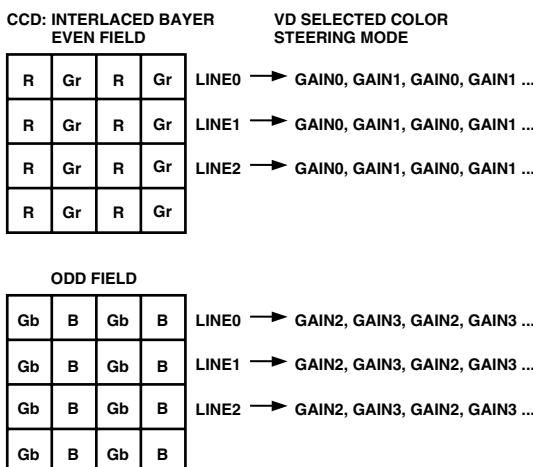
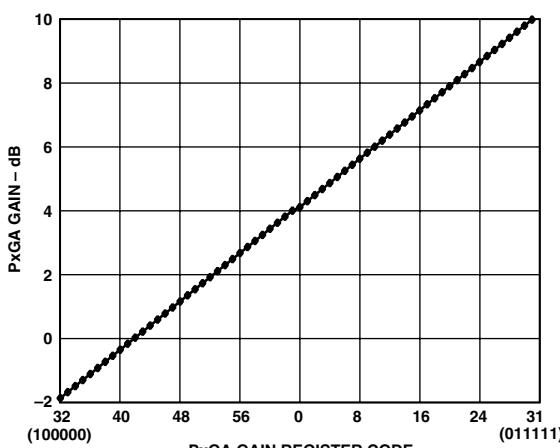

Figure 27. CCD Color Filter Example: Interlaced
Figure 28. *PxGA* Gain Curve
The same Bayer pattern can also be interlaced, and the VD Selected mode should be used with this type of CCD (see Figure 27). The Color Steering performs the proper multiplexing of the R, G, and B gain values (loaded into the *PxGA* gain registers), and is synchronized by the user with vertical (VD) and horizontal (HD) sync pulses. For more detailed information, see the *PxGA* Timing section. The *PxGA* gain for each of the four channels is variable from -2 dB to $+10$ dB, controlled in 64 steps through the serial interface. The *PxGA* gain curve is shown in Figure 28.